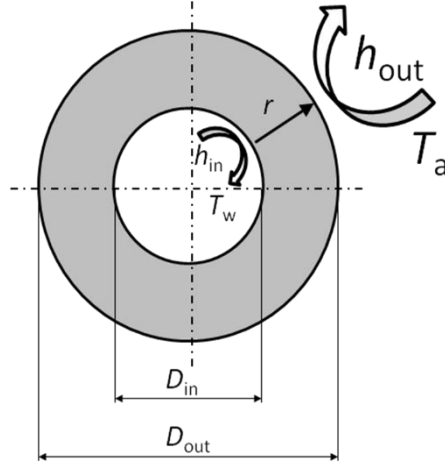

Fig. 6
- 6) Pressurized water at a constant temperature $T_w = 400$ K flows in a cylindrical pipe (inner diameter $D_{in} = 20$ mm, outer diameter $D_{out} = 24$ mm, conductivity $k = 0.035$ W/m/K, heat transfer coefficient $h_{in} = 100$ W/m²/K). On the outer surface the pipe is cooled by air at $T_a = 300$ K (heat transfer coefficient $h_{out} = 10$ W/m²/K), see Fig. 6. Compute analytically and numerically the radial temperature profile across the pipe wall cross section, using the FD method, and compare the two results in a plot with a proper legend.